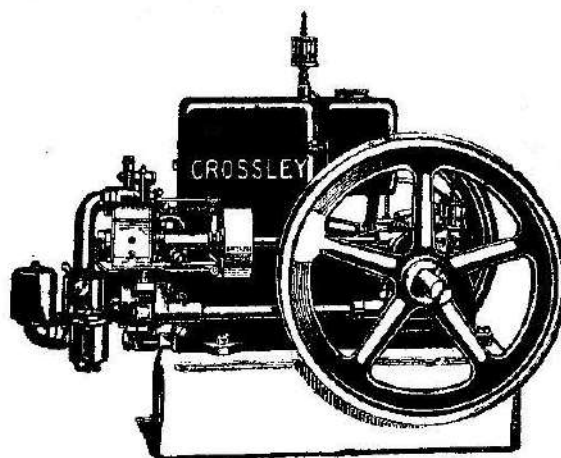

Figure 1—Paraffin Hopper Engine.
- Figure 1—Paraffin Hopper Engine (on front cover).